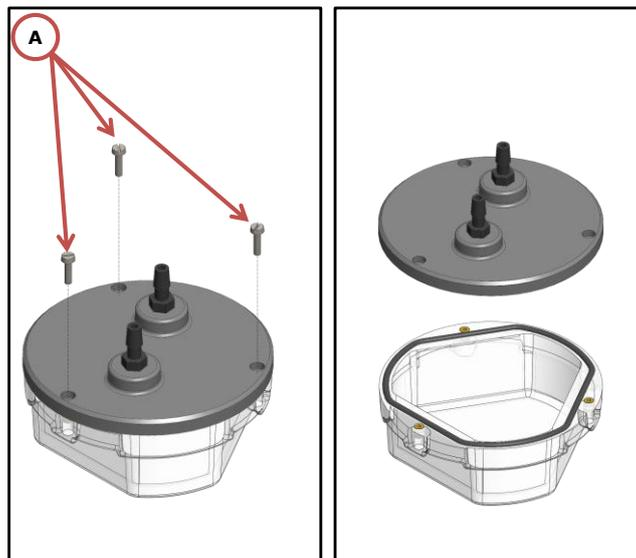

Figure 60. How to empty the water trap
- Loosen the water trap cover screws (M2x8, A in Figure 60)